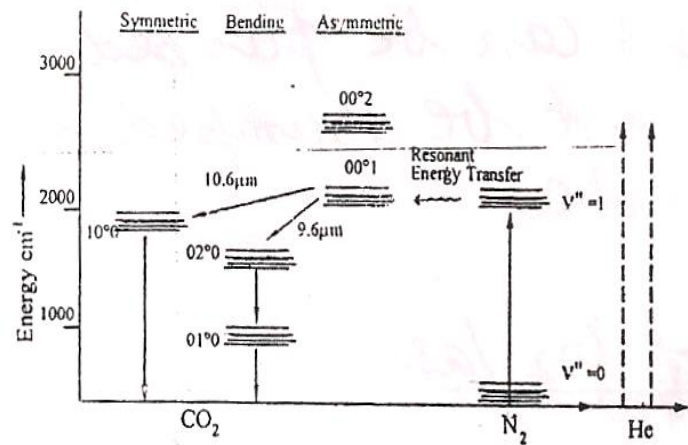

Fig. 3.16 Energy Level Diagram
3. When transition takes place between 00°1 to 10°0, laser of wavelength 10.6μm is emitted as shown in fig 3.16